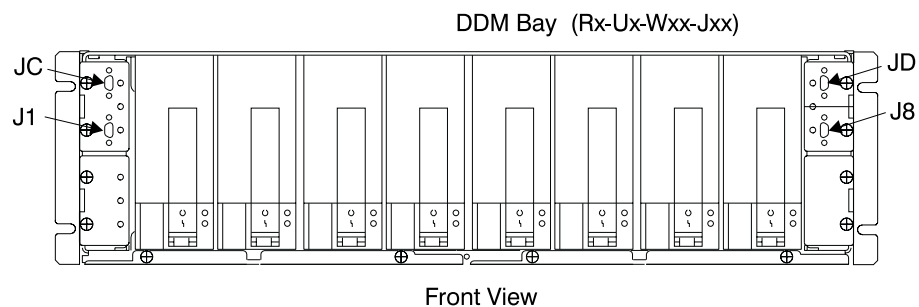

Figure 65. DDM bay SSA Connector Locations (S007693I)
4. Locate the two SSA cables displayed on the service terminal as possible FRUs. For this isolation procedure, the SSA cables will be connected between a DDM bay and SSA device cards. The service terminal will identify the DDM bays and their SSA connectors, and the SSA device cards and their SSA connectors. To locate a drawer see "Locating a DDM Bay or SSA DASD Model 020 or 040 Drawer in a 2105 Rack" in chapter 7 of the *Enterprise Storage Server Service Guide, Volume 3*. To locate SSA cable connectors on a DDM bay, see Figure 65.